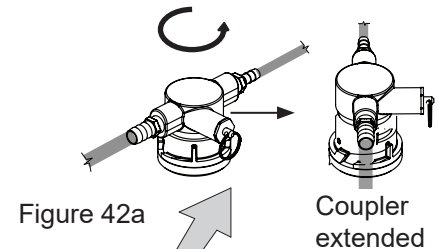

Figure 42a
9. Hooking up the keg coupler to the keg: Verify the coupler is in the "OFF" position (see Figure 42a). Align the lugs on the keg with the corresponding openings on the keg coupler and turn clockwise until the coupler stops (about 90°). Push down and twist the top of the coupler clockwise to allow gas to enter the keg.